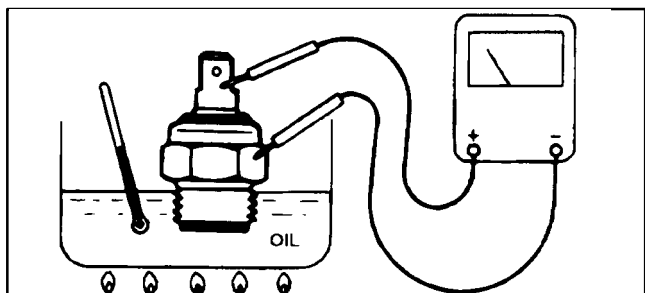

Figure 38
2. Put the switch in a container of oil with a thermometer and slowly heat the oil (Fig. 38).
5. After oil has cooled below 158°F (70°C), slowly heat oil and switch again (Fig. 38).